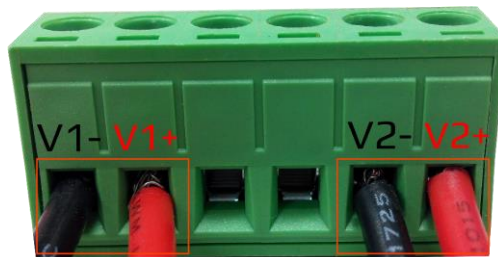

Figure 2.14: Power Terminal Block
Step 1. Insert the positive and negative wires into the PWR1 (V1+, V1-) and PWR2 (V2+, V2-) contacts on the terminal block connector as shown below in Figure 2.14.